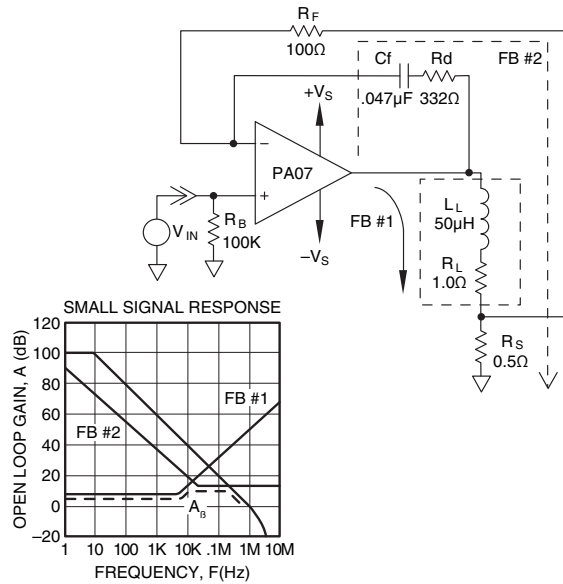

FIGURE 6. COMPENSATING THE AMPLIFIER corner.
To provide this response, the alternate feedback components have been selected to provide the compensating response illustrated in Figure 6. A_B in Figure 6 is the dominant feedback path the amplifier will see in its closed loop configuration. R_F merely acts as a ground leg return impedance for the alternate feedback loop, and should be a low value between 100 and 1000 ohms. R_d is then selected to provide the desired high frequency gain, and C_f is selected for the alternate feedback
In the example in Figure 5, the curve referred to as feedback response is actually representative of the closed loop noise gain response of the amplifier due to the feedback network consisting of yoke and sense resistor. In Figure 6, an additional feedback response for C_f , R_d , and R_F is plotted independently of all other responses. There are several important points to be noted in the use of these graphs:
1. In the case of multiple feedback networks such as in Figure 6, the response with the lowest noise gain at any given frequency will be the dominant feedback path. In Figure 6 this dominant feedback path is labelled A_{β} .